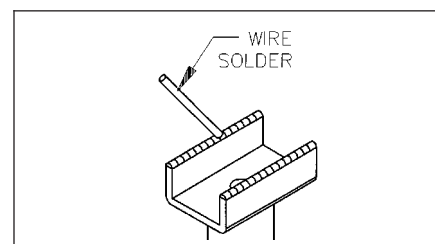

Figure 2 Tin Tip
7. Tin bottom and inside edges of tip with solder. (See Figure 2.)